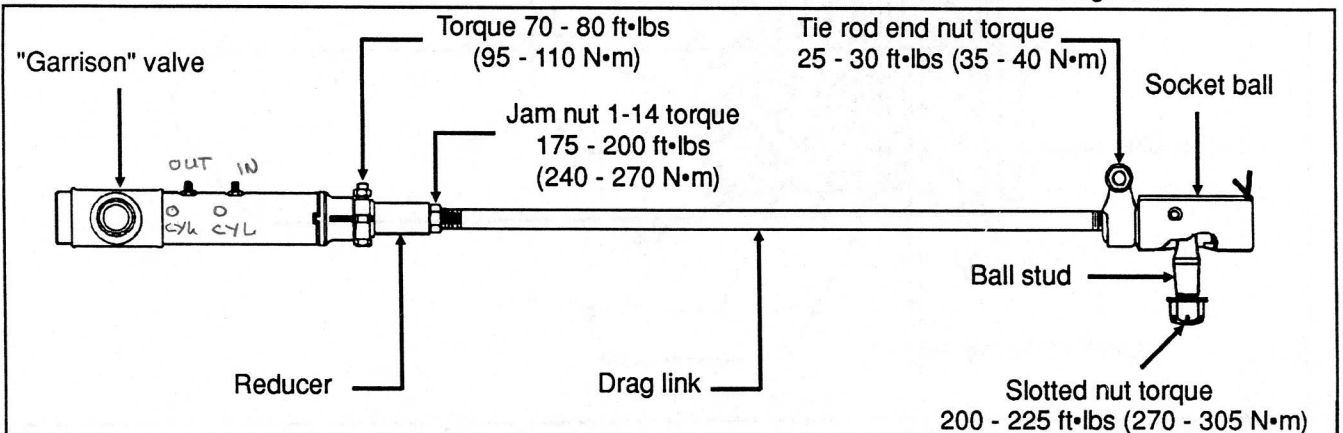

Figure 2
4. Loosen jam nut 1-14 on drag link, remove valve, then remove tie rod end nut. Refer to figure 2.
18. Check torque of bolt and nut on reducer. Refer to figure 2.